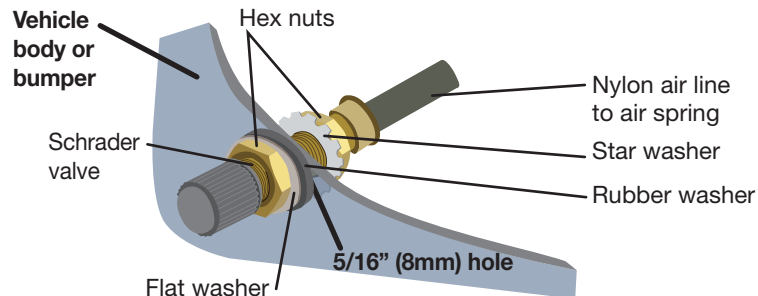

fig. 22
3. Install the Schrader valve in the chosen location (Fig. 22).